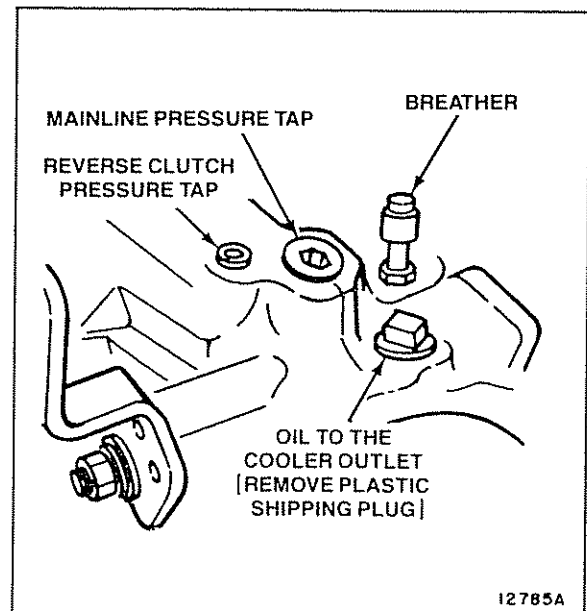

Figure 7B. Oil to Cooler Outlet
- Connect oil line to oil to the cooler outlet. See Figure 7B.